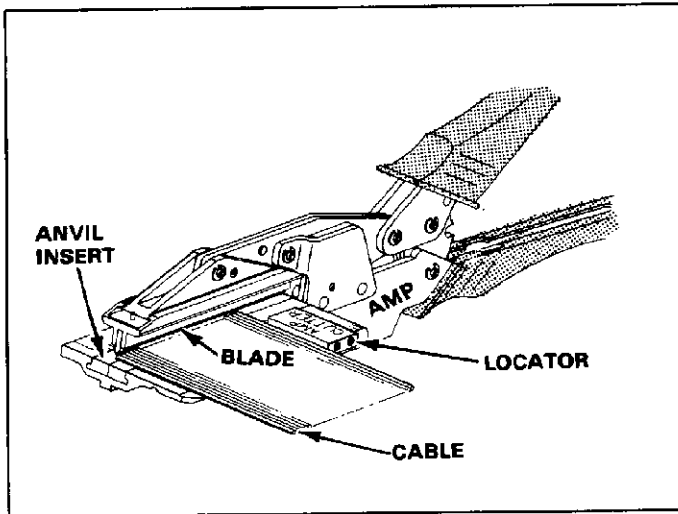

Fig. 2
3. CABLE CUTTING PROCEDURE (Figure 2)